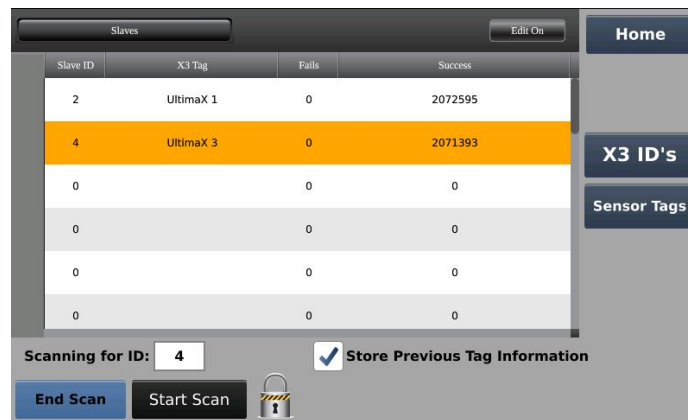

Figure 31. Node IDs Found
- Press X3 ID's button. See Figure 31.
- Press Sensor Tags button. See Figure 31.